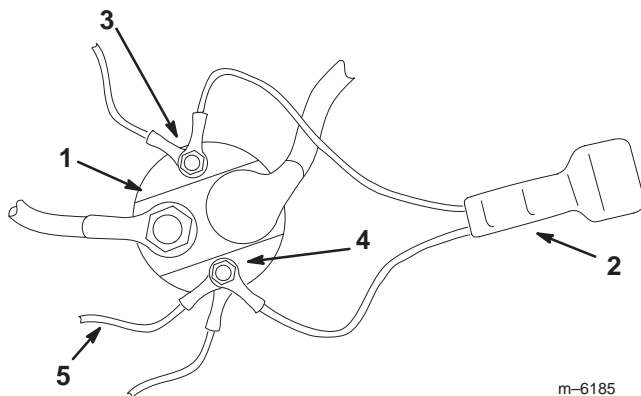

Figure 19
- Remove the nuts from the small terminals on top of the start solenoid, located near the battery (Fig. 19).
- Connect the diode across the terminals (Fig. 19) with the blue wire going to the terminal that already contains blue wires and the black wire going to the terminal containing black wires.
- Connect the ring terminal on the black wire of the module wiring harness to the terminal on the solenoid containing black wires (Fig 19).